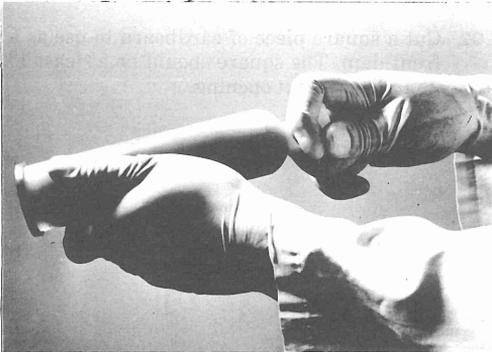

FIGURE 5
5.04 Push the mixing rod all the way to the bottom of the cartridge and with a clockwise motion, begin stroking the rod 25 strokes in and out. In and out constitutes one complete stroke. (see Figure 5)